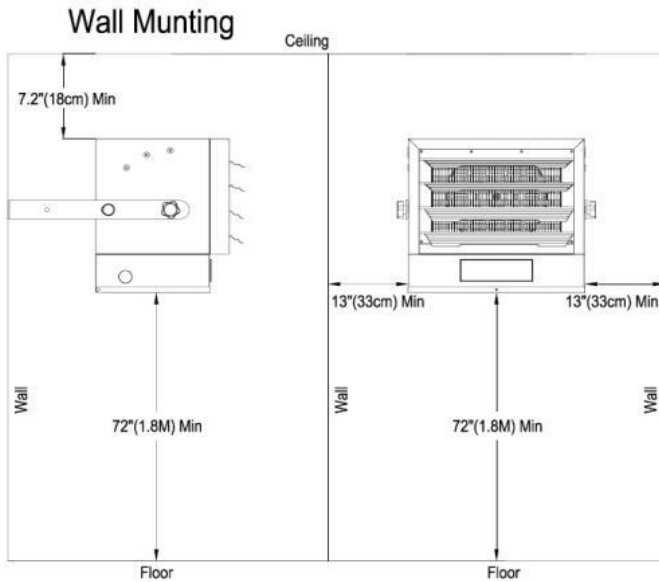

Figure 3
1. Locate the wood stud or joist in the ceiling and mark a line in the location for the heater to be installed. NOTE: The wall/ceiling mounting bracket allows installation onto a wall or ceiling using the specific mounting holes and minimum clearances, as shown in Fig 3 and 4.